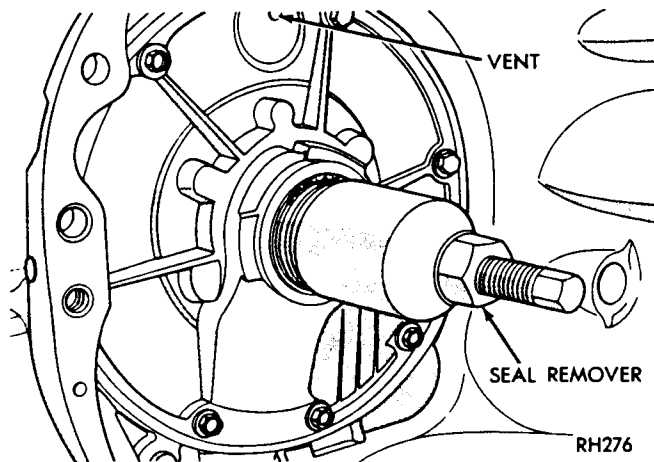

Fig. 3—Remove Pump Oil Seal
(1) **A-904T and A-999:** Screw seal remover Tool C-3981 into seal (Fig. 3), then tighten screw portion of tool to withdraw the seal.